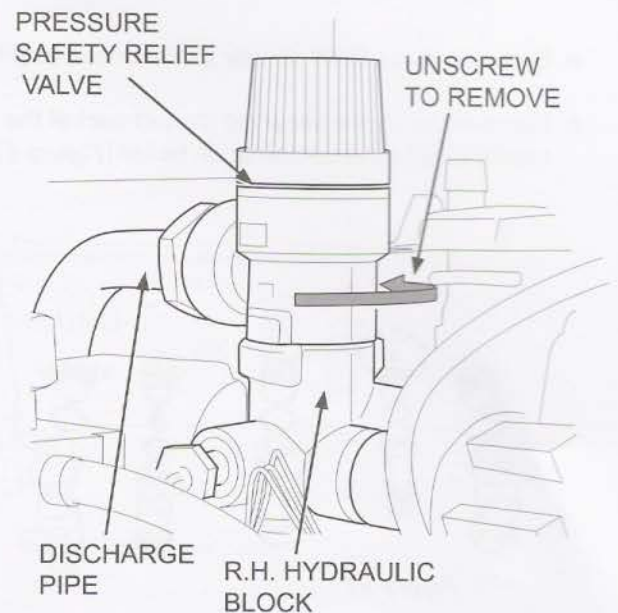

Figure 55
19.18 Pressure relief valve (Figure 55).